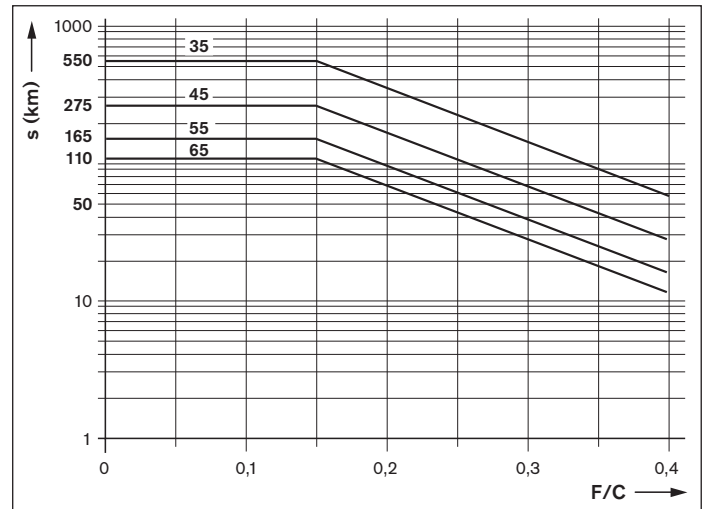

Fig. 1: Relubrication interval
- ▶ When the travel distance shown as the relubrication interval in Fig. 1 has been reached, apply the relubrication quantity as specified in Table 2.